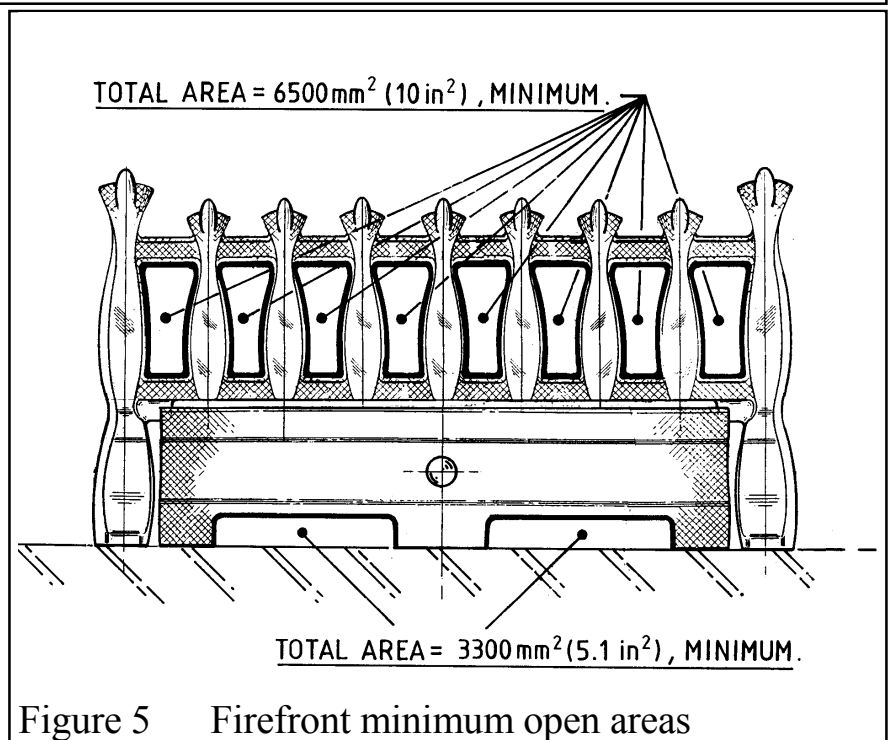

Figure 5 Firefront minimum open areas
**2.17** The firefront must have minimum open areas for air flow as shown in figure 5.